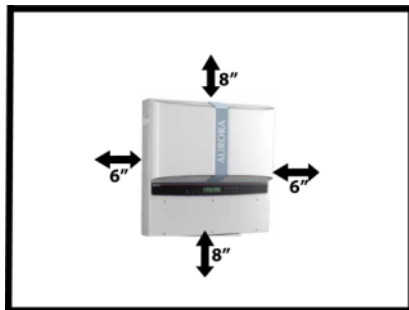

Figure 0-1 - Minimum Clearances around the AURORA Inverter
5. Access panels on the front surface of the inverter allow inspection and maintenance of hardware; and must not be blocked. Figure 0-1 shows the recommended minimum clearances around the inverter.